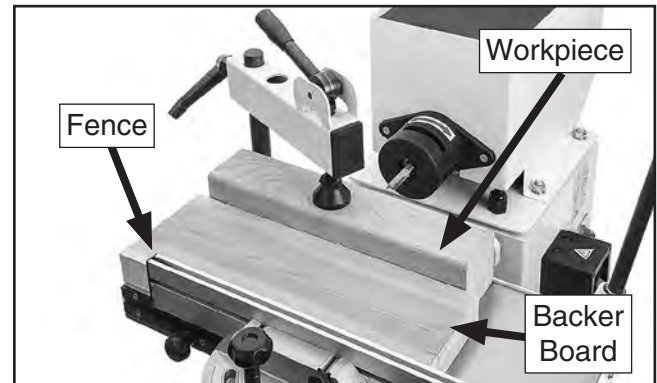

Figure 23. Small workpiece supported with backer board.
5. To ensure a small workpiece is clamped securely, insert backer board between fence and workpiece to extend fence reach (see **Figure 23**).